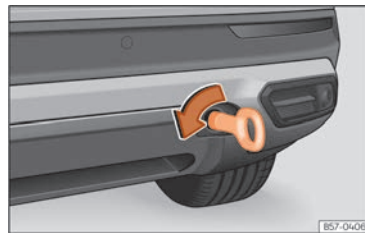

Fig. 196 Right side of the rear bumper: towline anchorage screwed in.
- Screw the towing eye in the housing by turning it to the maximum **anticlockwise** »» Fig. 196 , »» ①. Use a suitable object that can completely and securely tighten the towing eye in its housing.